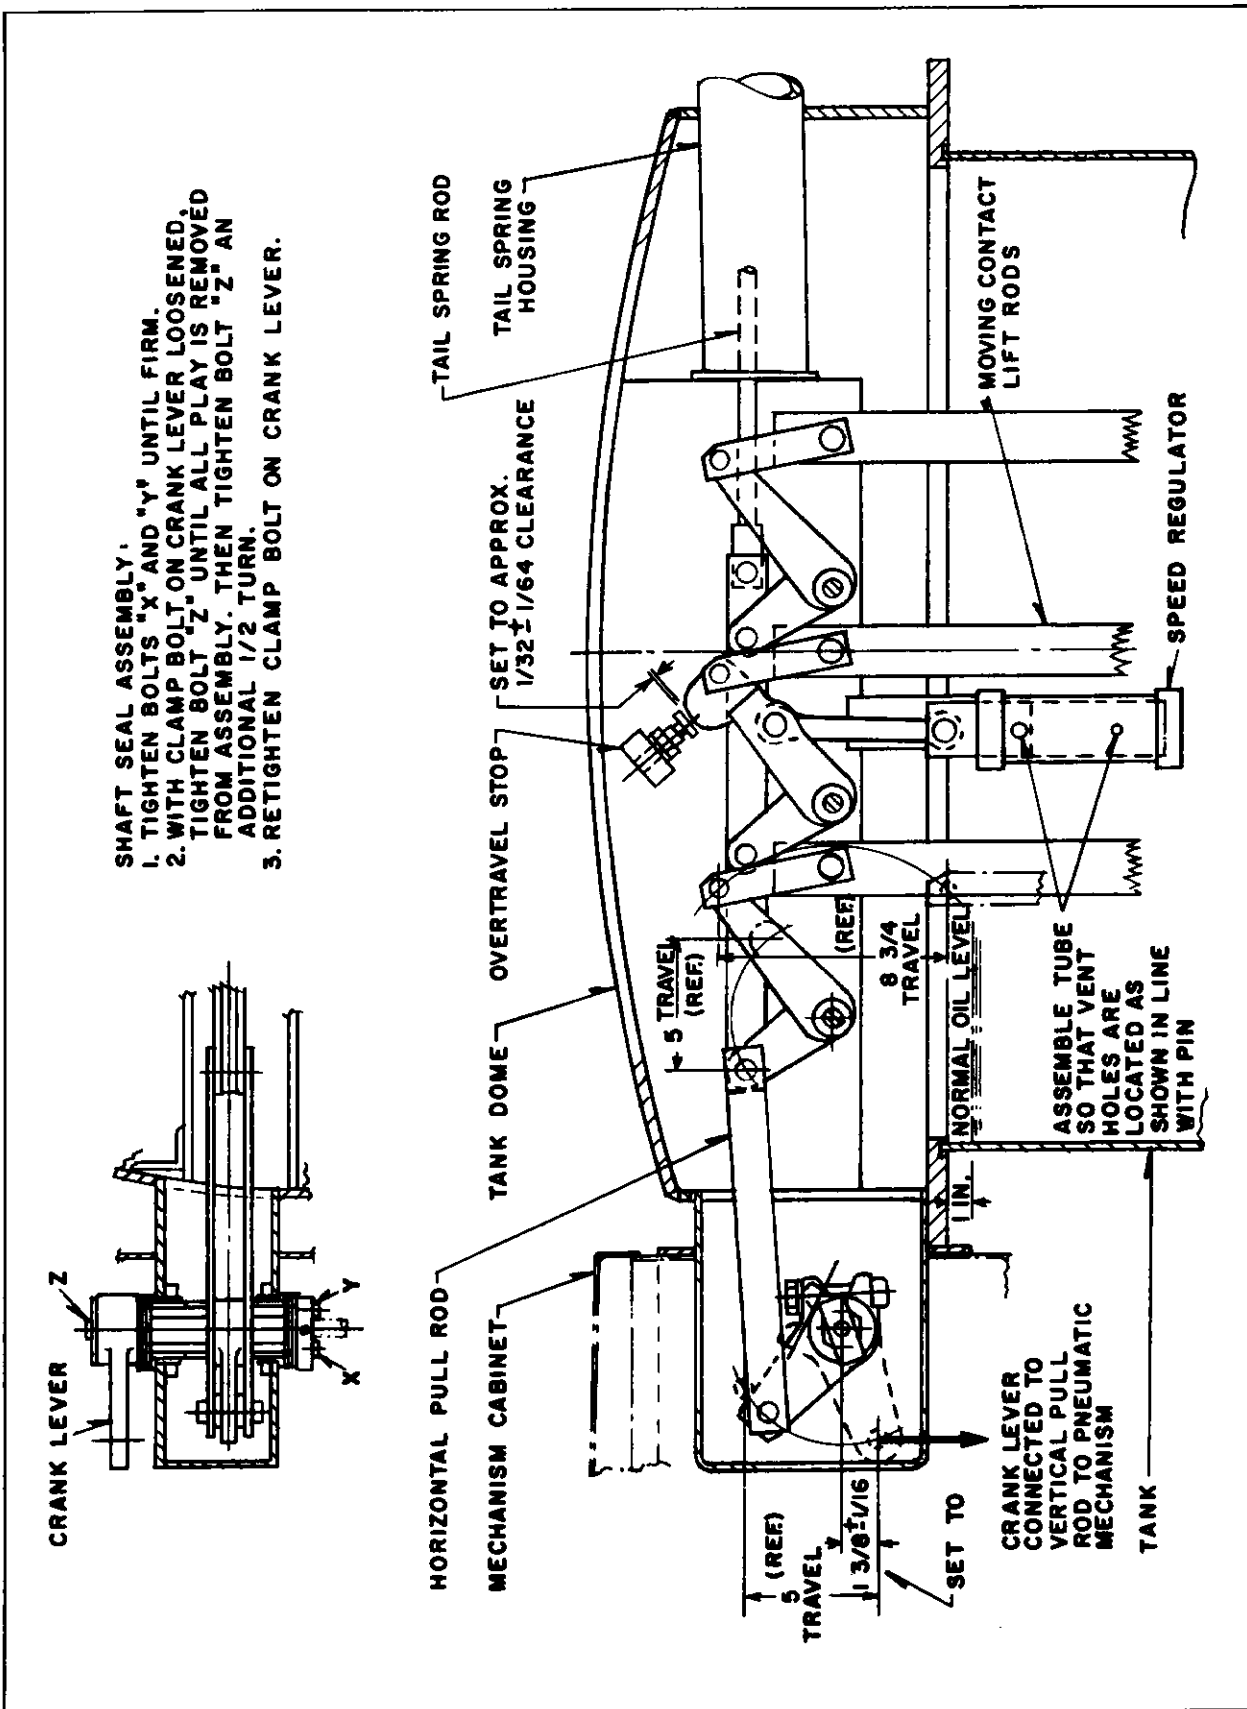

Fig. 4. Pole Unit Linkage and Bell Crank Assembly
4. Check lever system overtravel stop for $1/32"$ clearance. (Ref. Fig. 4.)
Operating Linkage - Fig. 4
3. Check clearance of the lever system overtravel stop with the breaker closed and just latched (no overtravel). Ref. Fig. 4. Note that a clearance greater than $1/32"$ would affect the apparent contact erosion as checked in Step 2.